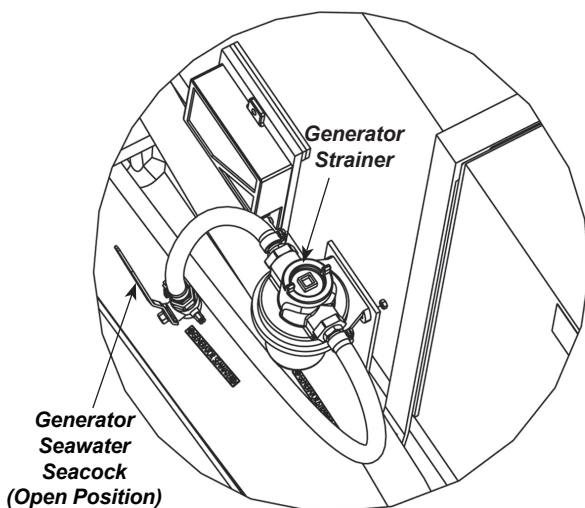

Figure H34: Generator Seawater Seacock & Strainer
5. Open the generator's seacock valve, labeled GENERATOR SEAWATER, to allow water flow to the generator for cooling purposes. The seacock is typically located in the engine room next to the generator. See Figure H34.